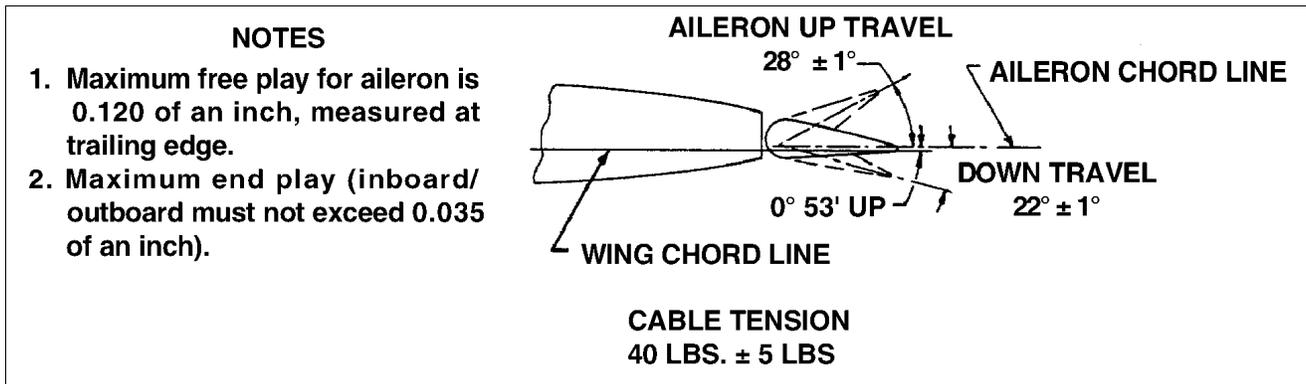

Figure 27-10. Aileron Rigging Limits
2. To adjust primary and balance cable tension, as given in Figure 27-10:
4. Check ailerons for correct travel from neutral per limits given in Figure 27-10 by the following procedure: